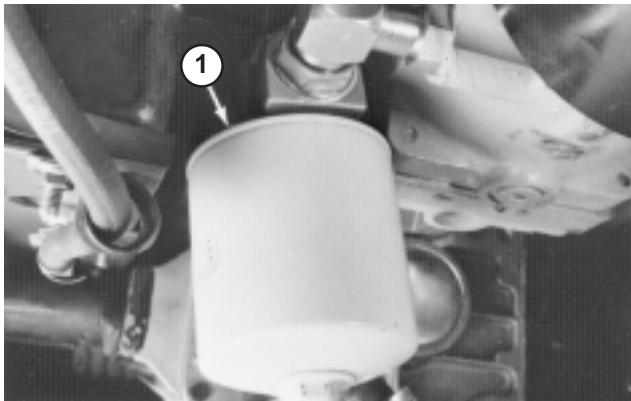

Figure 71
1. Clean area where hydraulic fluid filter mounts. Remove filter from base (Fig. 71) and clean filter mounting surface.